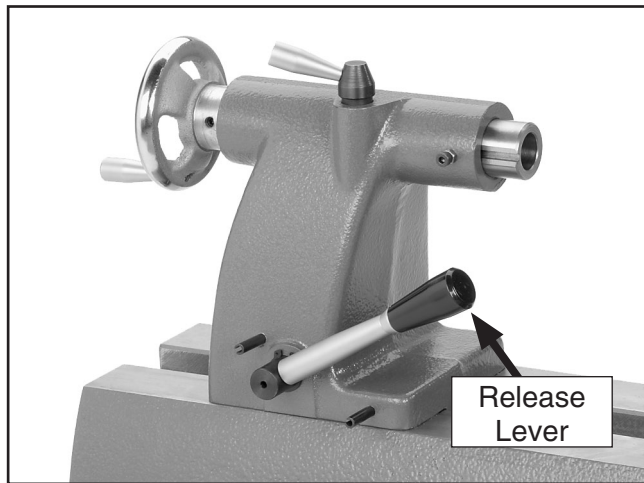

Figure 10. Tailstock controls.
1. Loosen the release lever and move the tailstock to the desired position (**Figure 10**).